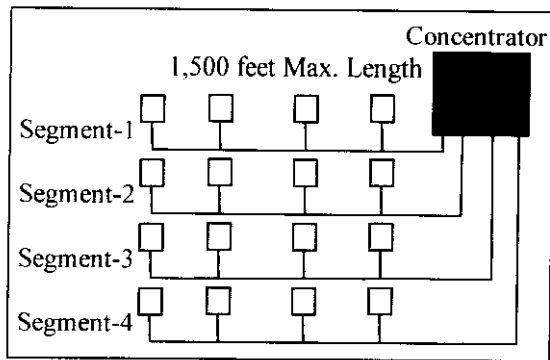

Figure 2, Typical Busline Loading
- Refer to Figure 2 for typical busline loading and Table 1 for total length per segment restrictions of PROX-100W detectors.